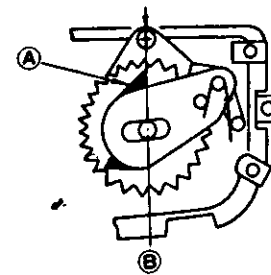

Fig. 39
13. Film counter (see Fig. 39, 40, 41)
- 1) Adjust the CAM portion (A) of the GEAR A ASSY on the line B shown in Fig. 39.